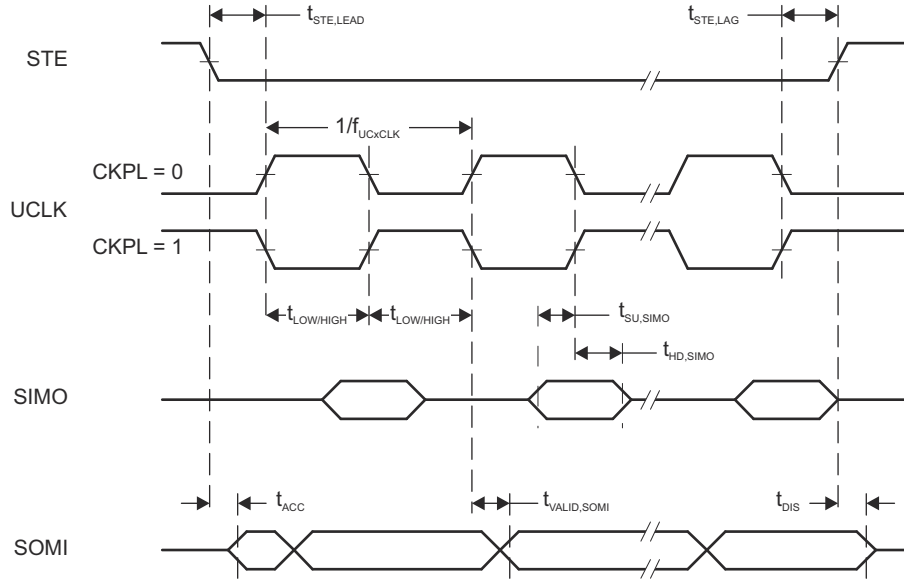
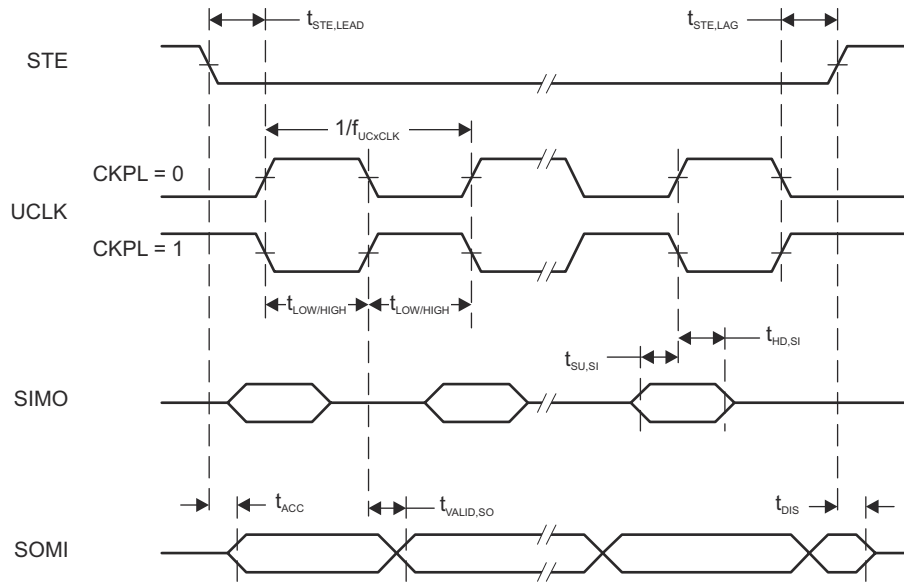

Figure 8-12. SPI Slave Mode, CKPH = 0
Figure 8-13. SPI Slave Mode, CKPH = 1
- (2) Specifies the time to drive the next valid data to the SOMI output after the output changing UCLK clock edge. See the timing diagrams in Figure 8-12 and Figure 8-13.
- (3) Specifies how long data on the SOMI output is valid after the output changing UCLK clock edge. See the timing diagrams in Figure 8-12 and Figure 8-13.